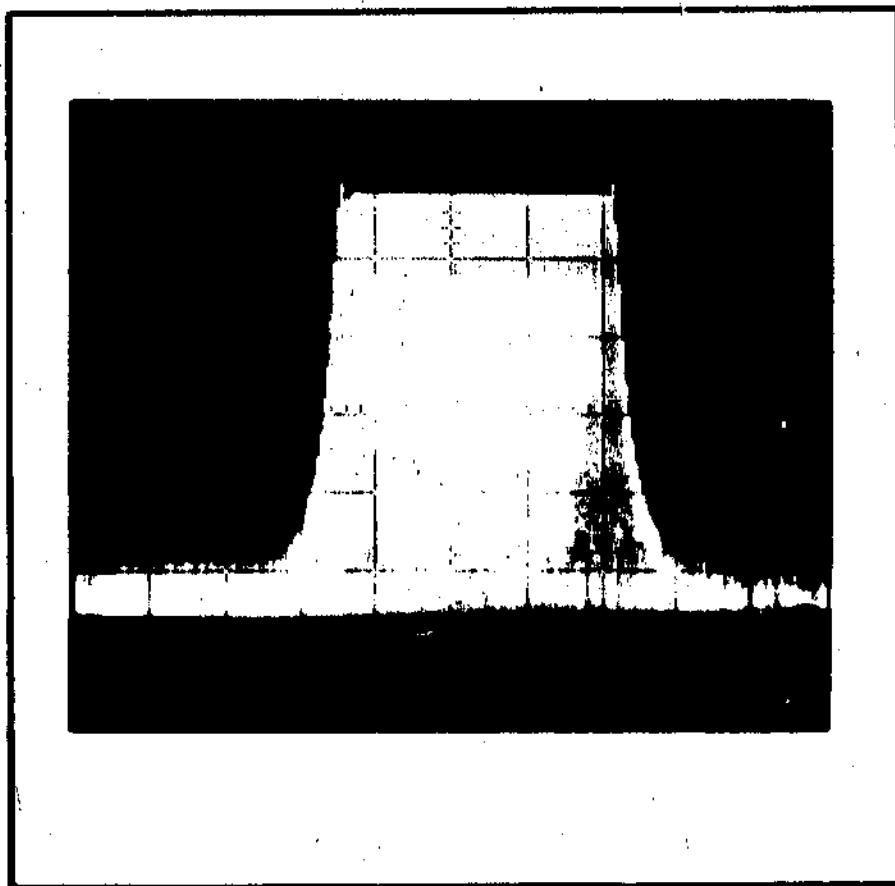

Figure 4-1. Sawtooth Spectrum
12. Press the INT 1 kHz key again and verify that its annunciator goes off. Then press the FM INT  $\sim\sim\sim$  key and verify that its annunciator lights. The spectrum analyzer display should appear similar to the one shown in Figure 4-1.